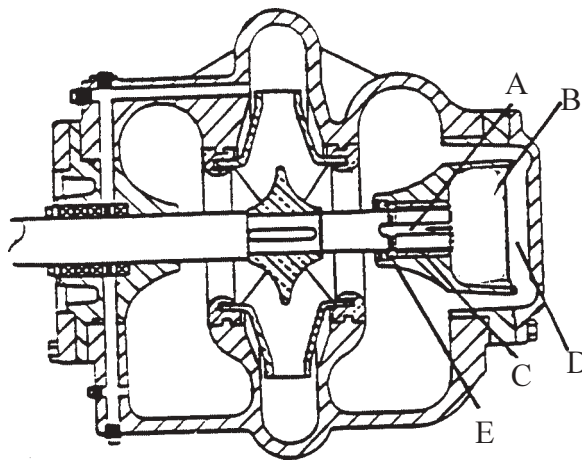

Figure 1.6 - Auto-Lube System
A miniature centrifugal pump (A) is built into the shaft of Hale midship pumps (see Figure 1-6). This miniature pump continuously forces oil from the reservoir (B), through the bearing (C), and back again.